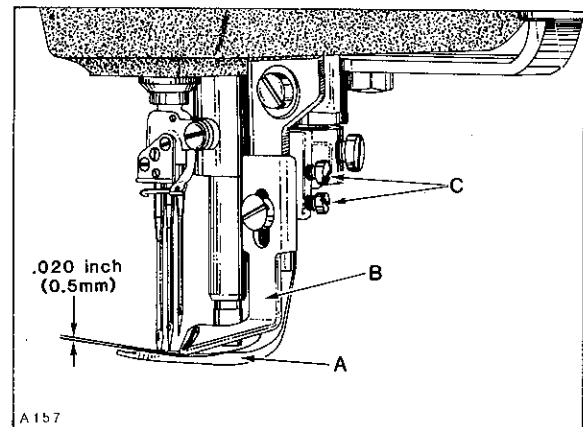

Fig. 27
Spreader (A, Fig. 27) should be positioned so its upper surface clears the lowest edge of stationary guide (B) by $.020$ inch (0.5mm) and the rear side of spreader blade should clear the shank of left needle by $1/64$ to $1/32$ inch (0.4 to 0.8mm) throughout its arc of travel. Adjustment can be made by loosening screws (C), reposition as required and retighten screws securely.